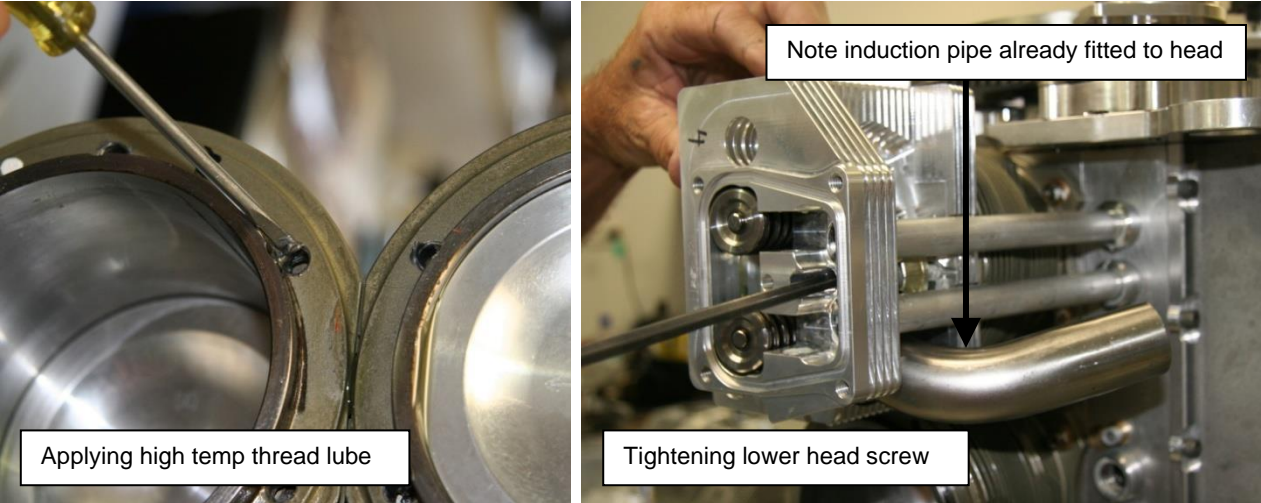

Figure 191 – Applying Thread Lubricant & Tightening Lower Head Screw
10. Apply high-temperature lubricant to the threads of the cylinder and the cylinder head screws – these are susceptible to rust which can lead to inaccurate bolt tension readings later in service. The lubricant is designed to prevent rust on the threads and to ensure a consistent torque setting during the engine's service life. Figure 191 refers.
11. Install the cylinder head bolts and washers with a light tension setting. In particular the lower head screw (which is accessed via the hole inside the rocker cavity) must be left loose – the special washer under this screw can rub against the rocker tubes and so must be carefully positioned to avoid this. Figure 191 (right) shows this screw being tightened.